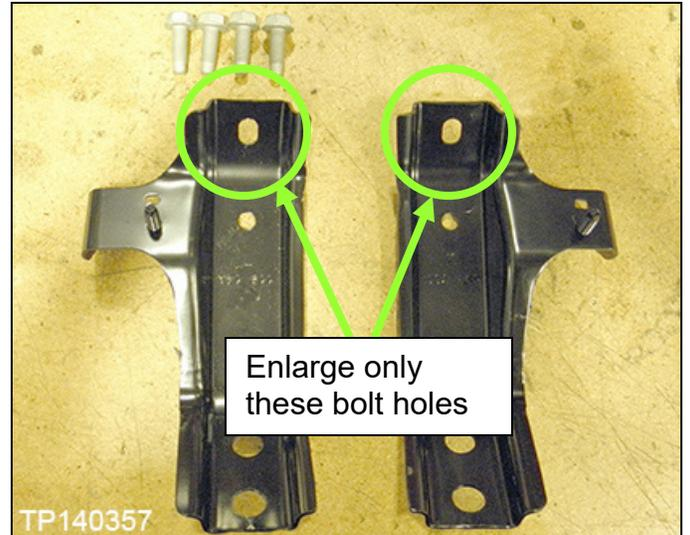

Figure 2
- b. With a 1/2" drill bit, enlarge the bolt holes indicated in Figure 2